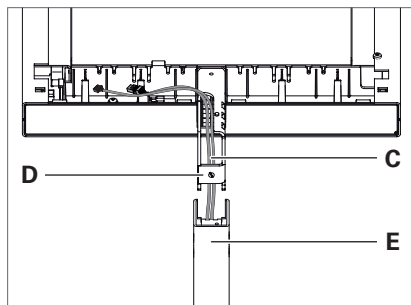

Fig. 2: Mounting the luminaire head on the column.
- ▶ Lead the cables **C** from below through the support arm **D** past the luminaire head and insert the support arm completely into the column **E**, see Fig. 2.